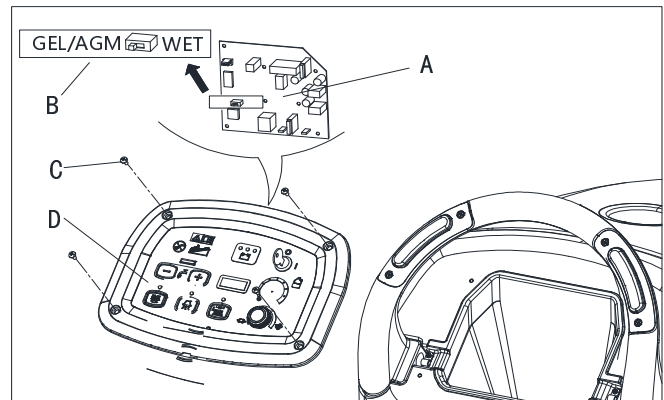

Figure 4
4. Remove the screws on control panel (C, Figure 4), then turn over the PCB (A, Figure 4) to find the DIP switch (B,Figure4) for setting battery type(WET or GEL/AGM).